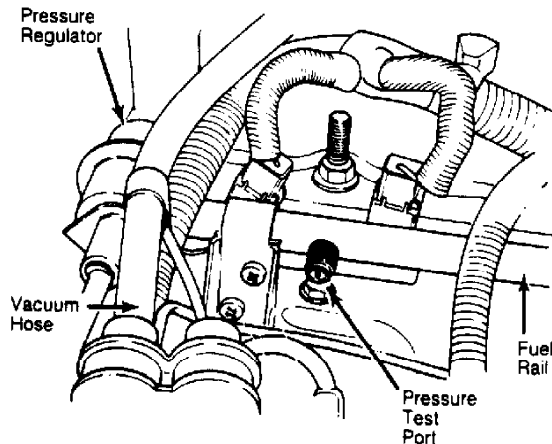

Fig. 3: Fuel System Pressure Test Components
1) Remove cap from pressure test port located in fuel rail. See Fig. 3. Connect Fuel Pressure Gauge (J-34730-1) to pressure fitting.